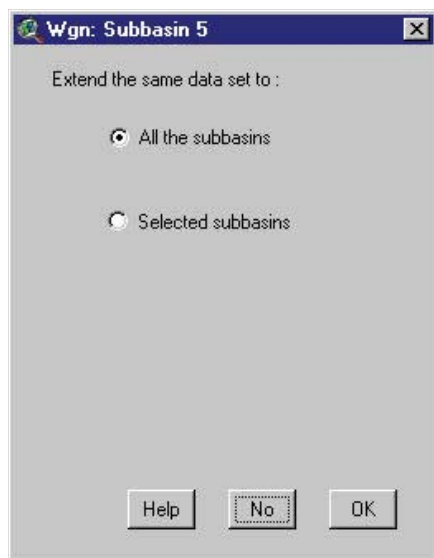

Figure 12.16
4. If the user saves the modified values, once the values are saved for the subbasin (by clicking the **OK** button in Step 3), a new dialog box will be displayed allowing the user to copy the modifications to other subbasin data sets (Figure 12.16).